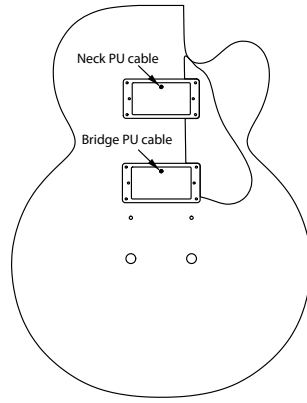

Figure 7 - How to position the pickups in the guitar
3. Both pickups must be positioned so that their cables come out from the side closest to the neck (see Figure 7, following page). The silkscreen at the back of the pickup can be used also, because it identifies which polepieces must go below the 1st and 6th strings.